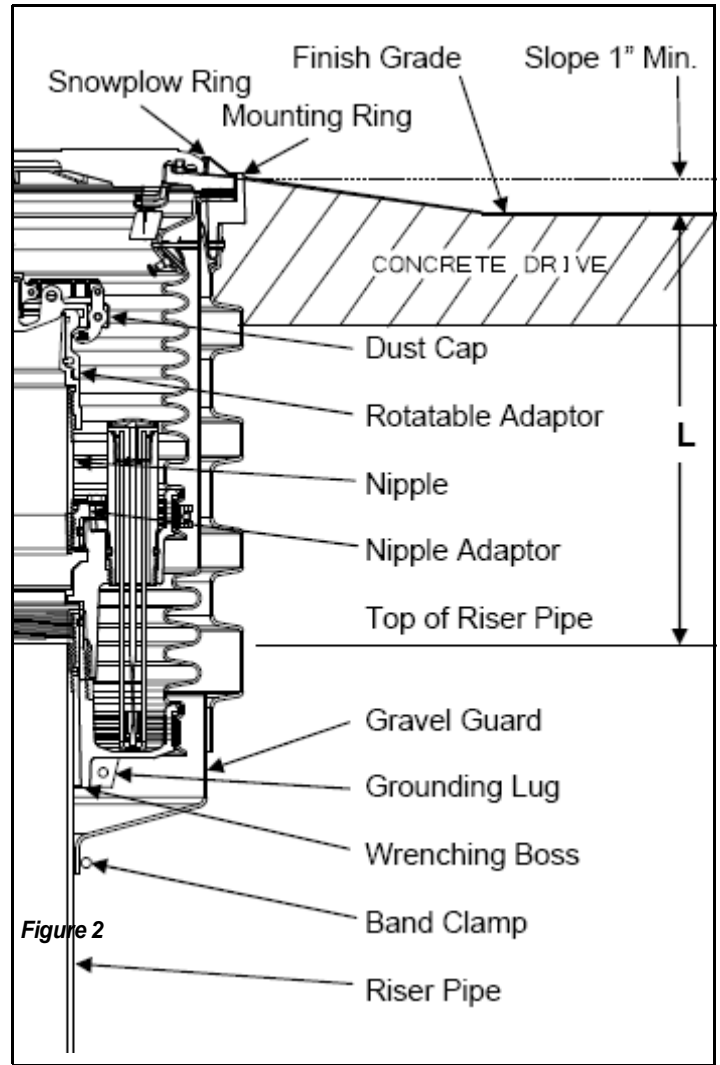

Figure 2
**Step 5: (See Figure 2)**
**Step 6: (See Figures 2 & 3)**
**Step 10: (See Figure 2)**
Install gravel guard at final height as shown in Figure 2 and tighten band clamp to 30 in-lbs. Where applicable, per California SB-989, all metal must be protected from direct contact with the elements. Coat stainless steel band clamp with the following approved coatings: OPW SL-1100, 3M Underseal 08883 or Polyguard Mastic CA-9.
**Step 11: (See Figures 2 & 5)**